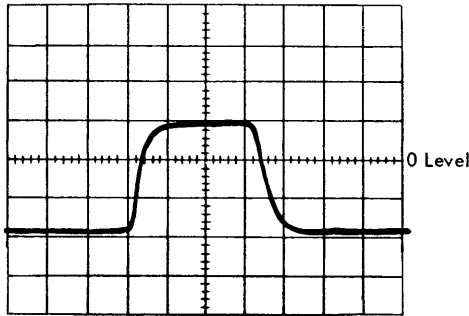

Figure 10.  $\phi C$  (3Zd)  $3.0 \pm .25 \mu s$
6. Adjust 2V8 (3.01.02) for a disk  $\phi C$  pulse length of  $3 \pm .25 \mu s$  at the zero volt level (See Figure 10).